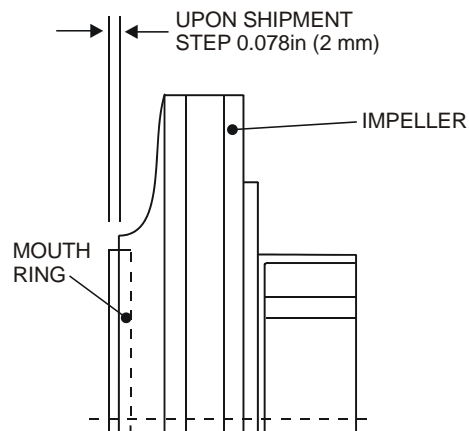

Figure 6
- \*\* The step between the surfaces of the mouth ring and the impeller upon shipment is 0.079 in. (2mm). Replacing the mouth ring is recommended before this step is reduced to 0 in. [Fig. 6]